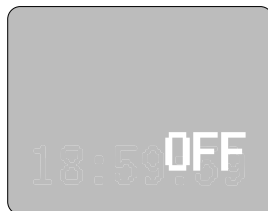

Figure 1
1. When the heater is connected to power, the screen will display (Figure 1).